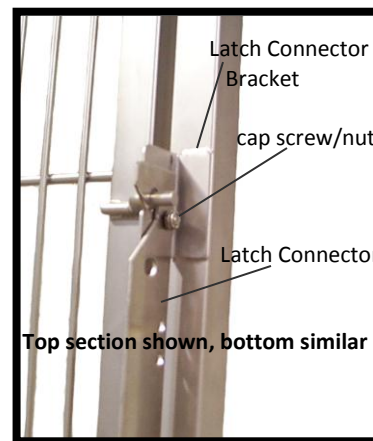

Figure 55: Removing the Latch Connector
2. With a Phillips screwdriver and a 7/16 in. wrench, remove the two cap screws and nuts that hold the latch connector to the two latch brackets (Figure 55) and remove the old latch connector.